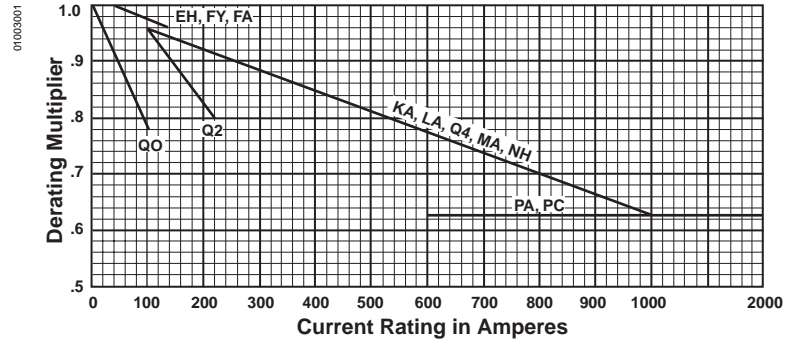

Figure 2: 400 Hz Thermal Rerating Multiplier
- Non-continuous Loads (less than three hours): Using Figure 2, the KA circuit breaker should be applied at .92 of rating, or 184 amperes.
One of the most common high frequency applications is at 400 Hz. Figure 2 indicates the thermal rerating multiplier to be used with each circuit breaker family when applied on 400 Hz systems.